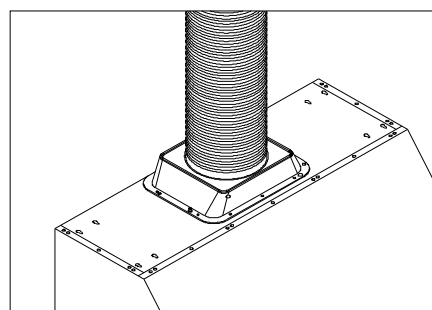

Figure 15
5. Use 8" round steel pipe (follow building codes in your area) to connect the ducting transition on the hood to the ductwork above. Use duct tape to make all joints secure and air tight. Refer Figure 15. Slide the duct cover onto the hood.